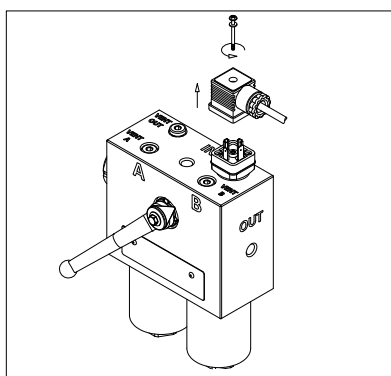

fig. 15
- (Fig. 15) Remove the connector of the differential indicator by unfastening the central screw (only for electrical indicators)
- For the mounting/dismounting of the indicator, please refer to the paragraph "Clogging indicator replacement" above (Fig. 15÷18)